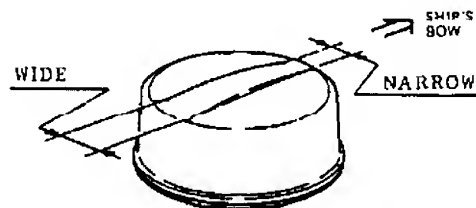

Fig.8 Radome Cover Placement
10. Put the radome on the radome base assembly, taking note of that the narrower recessed part should face in the direction of the bow. Fig.8.
11. Install the radome on the radome base assembly, being careful of its direction. The narrower recessed part should face the bow direction. See Fig.8.